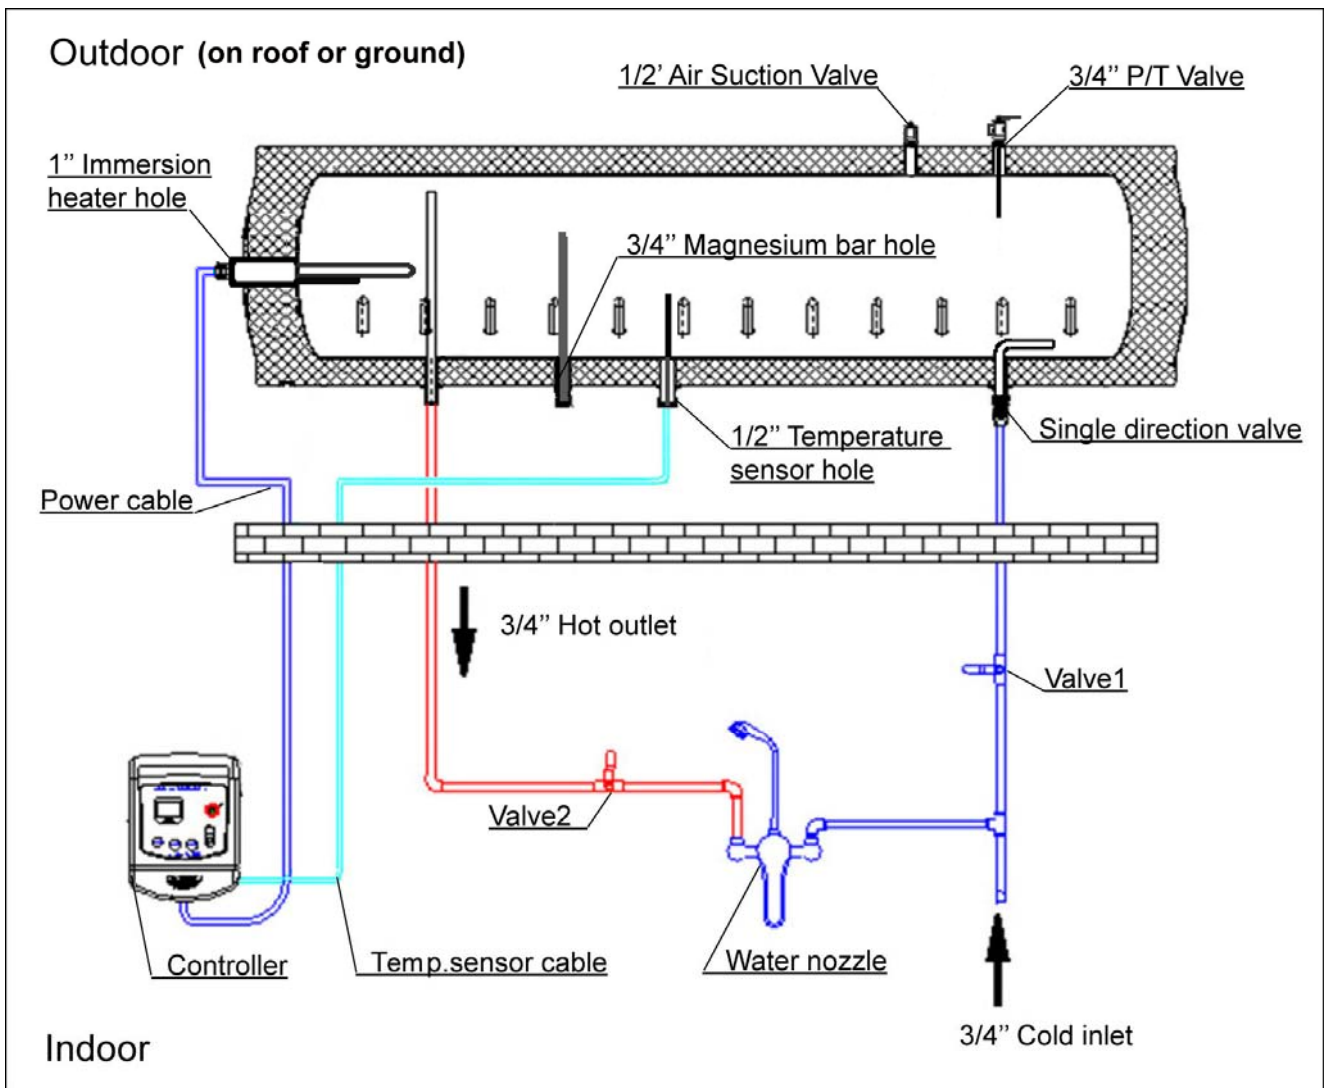

Fig 4.2
- *Uses a P/T valve, Air suction valve and Single direction valve to protect the solar heating system.* These valves come with the system. Not all suppliers offer these valves. Refer to Fig 4.2 below.